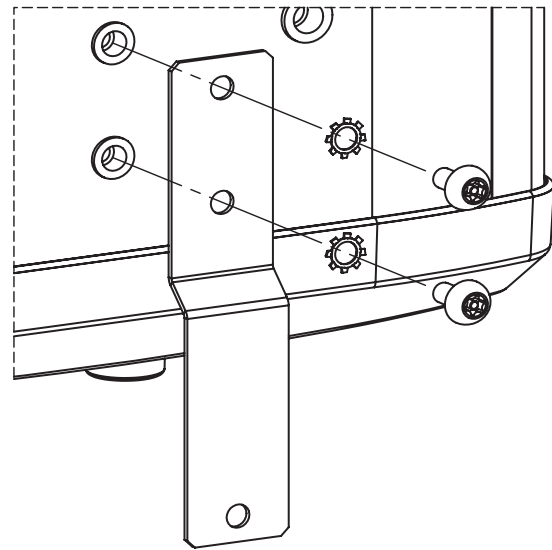

Figure 5: Bottom Bracket
- ▶ The bottom bracket will require mounting to the casing as shown in figure 5 using the fixings supplied. This must be done before the appliance is mounted on the wall